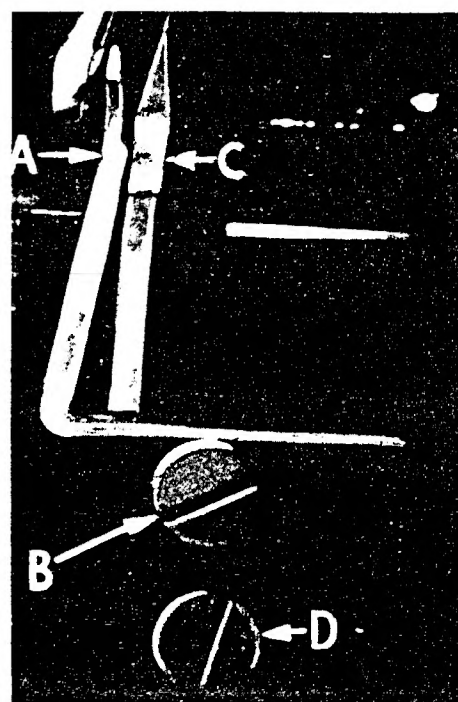

Fig. 6
Set rear needle guard (A, Fig. 6) as high as possible, without interfering with either lower looper or movement of lower knife holder, but still in position to deflect needle forward .002-.004 inch. Screw (B) is used to set rear needle guard. Make sure there is no interference between rear needle guard and lower looper.
Assemble front needle guard (C, Fig. 6). When lower looper is springing needle off back-guard, set front needle guard as close as possible to needle without touching. Screw (D) is used